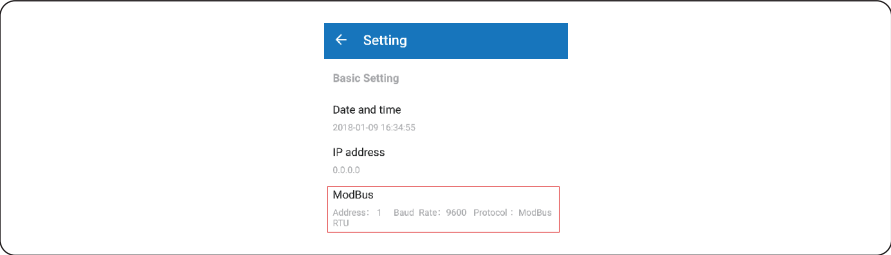

Figure 5.21 Check the Modbus address
Step 3 Check the Modbus address in Figure 5.21, the default address is 1, long click to revise the address and save it, the inverter at same RS485 bus must be set a unique address.